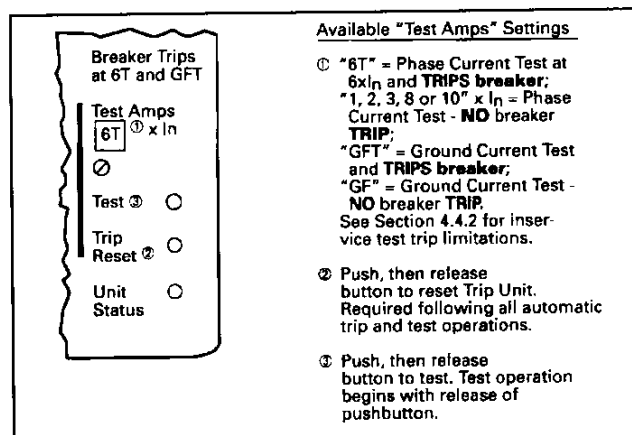

Fig. 9 Integral Test Panel (Lower Right Corner of Trip Unit)
As indicated in Fig. 9, note 1, six different "Test Amps" settings (1, 2, 3, 6T, 8 and $10 \times I_n$) are available for testing the phase elements of the Trip Unit, and two settings (GF and GFT) are provided for testing the ground element.
1. Place the "TEST AMPS" selector switch (see Fig. 9) in one of the six "No Trip" test settings, i.e., 1, 2, 3, 8, or 10 x I_n , or GF.
4. Reset the Trip Unit by pressing and releasing the "TRIP RESET" push-button; all LEDs lighted by the "No-Trip" test action should turn "OFF", and the display will again show the value of the current through the breaker. In the event that no one resets the Trip Unit after a test, it will wait for about three (3) hours, and then it will automatically revert back to its pre-test status.
2. Place the "TEST AMPS" selector switch (See Fig. 9) in either the "6T" (or "GFT") position.
3. Press and release the (Black) "TEST" push-button (See Fig. 9) — the test starts when the push-button is released and the elapsed time is displayed in the window.
5. Reset the Trip Unit by pressing and releasing the "Trip Reset" push-button (See Fig. 9). All LEDs lighted by the "Trip" test action should turn "OFF", and the display window will again show the value of current flowing in the breaker.